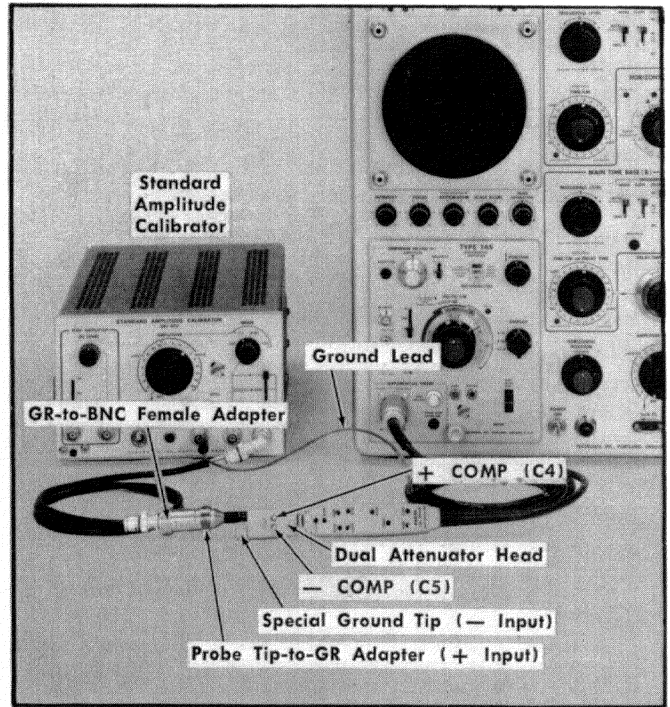

Fig. 6-19. Equipment setup for Dual Attenuator Head AC compensation, step 11.
a. Preliminary control settings apply. The equipment setup and adjustment locations appear in Fig. 6-19.
i. ADJUST— + COMP (Fig. 6-19) for optimum squareness at the upper left corner of the square wave.  $\pm 0.1$  div or less rounding, overshoot or tilt.
l. ADJUST—Attenuator - COMP (Fig. 6-19) for optimum squareness at the lower left corner of the square wave.  $\pm 0.1$  div or less rounding, overshoot or tilt.